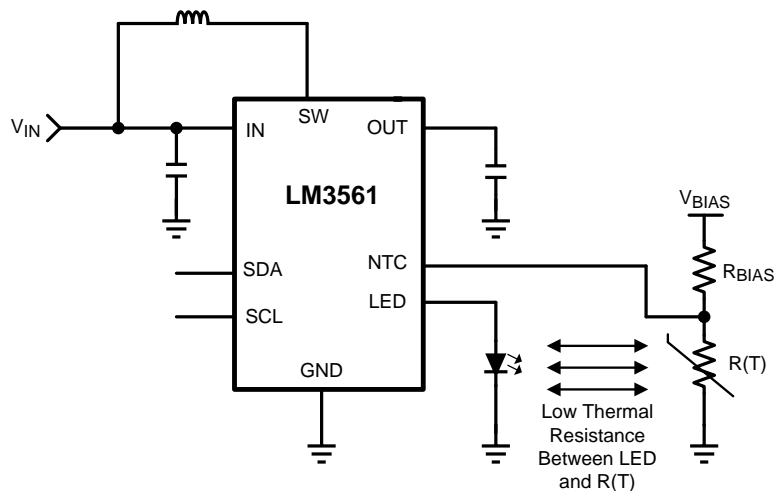

Figure 38. NTC Circuit
Programming bit [4] of Configuration Register 1 with a (1) selects Thermal Comparator mode, making the LED/NTC pin a comparator input for flash LED thermal sensing. The thermal sensing circuit consists of a negative temperature coefficient (NTC) thermistor and a series resistor which forms a resistive divider (see Figure 38).